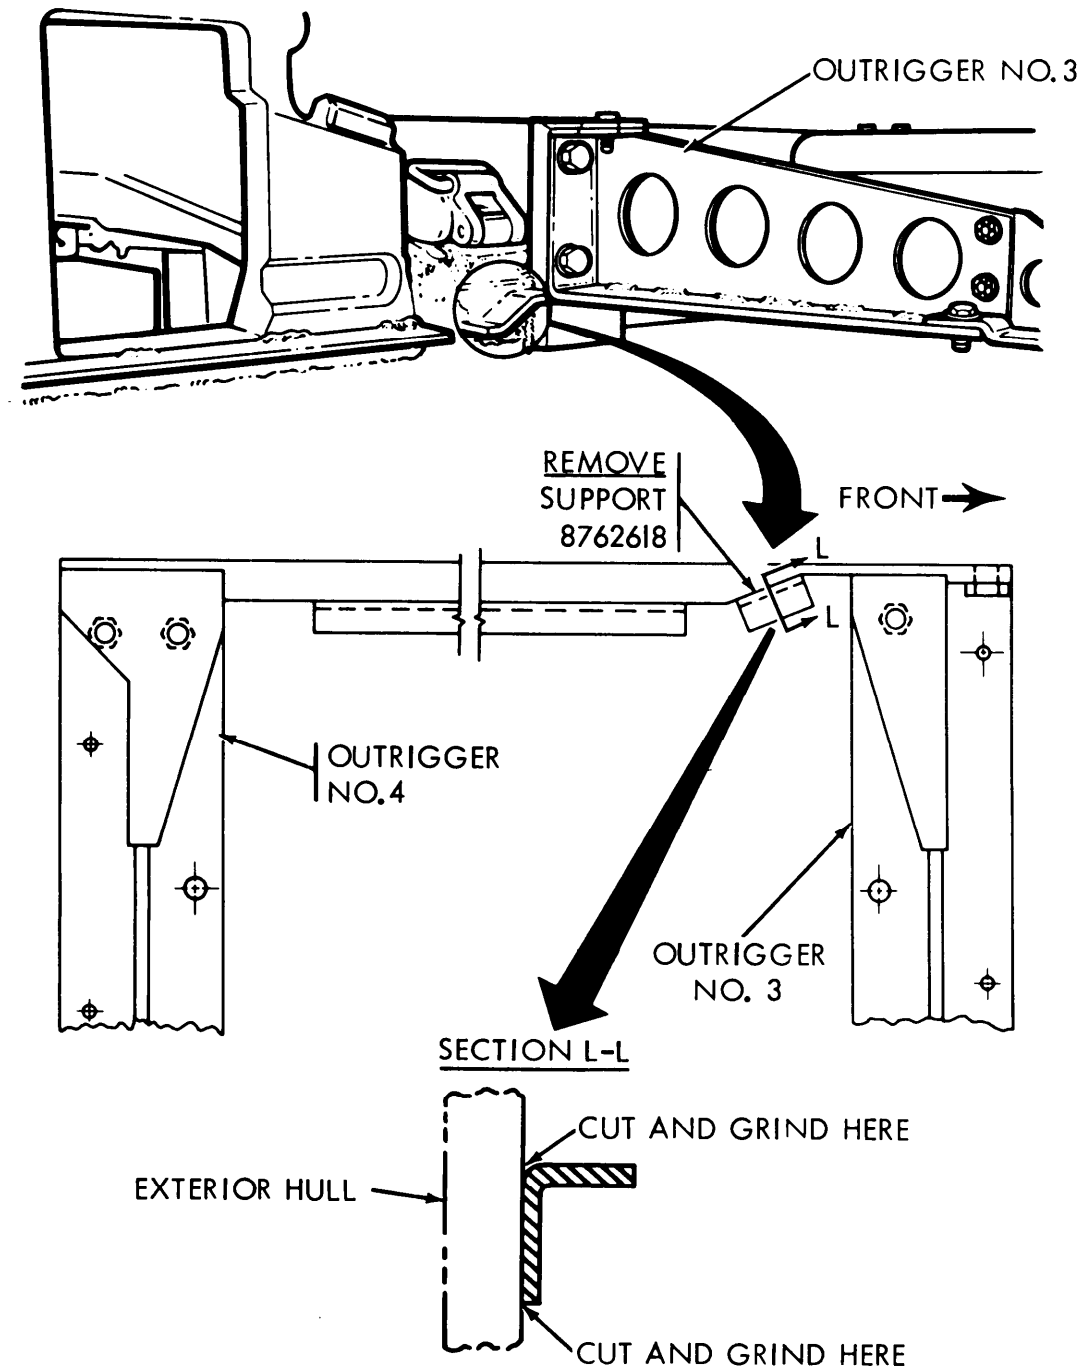

Figure 4-20. Right outrigger support removal.
- (c) Using cutting torch, carefully cut the support 8762618 from the hull and grind surface smooth (Figure 4-20).